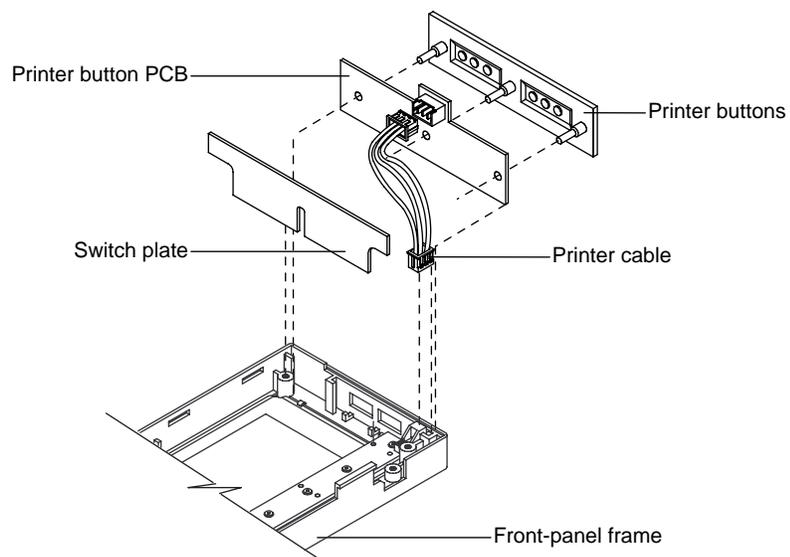
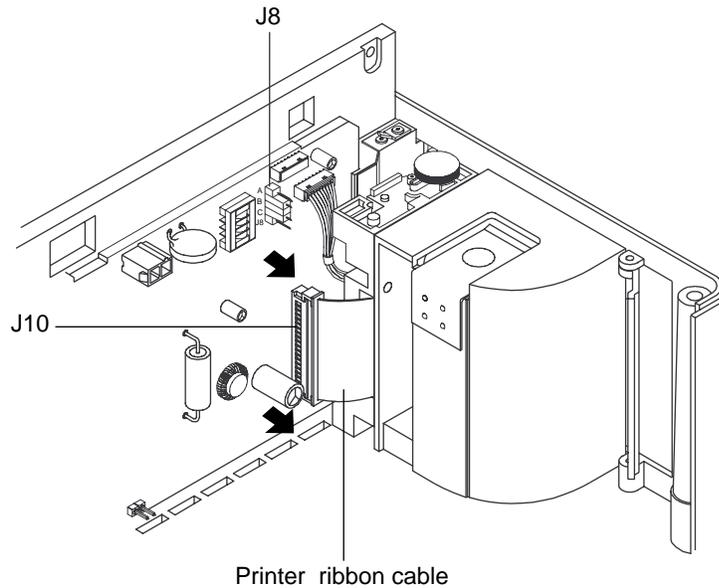
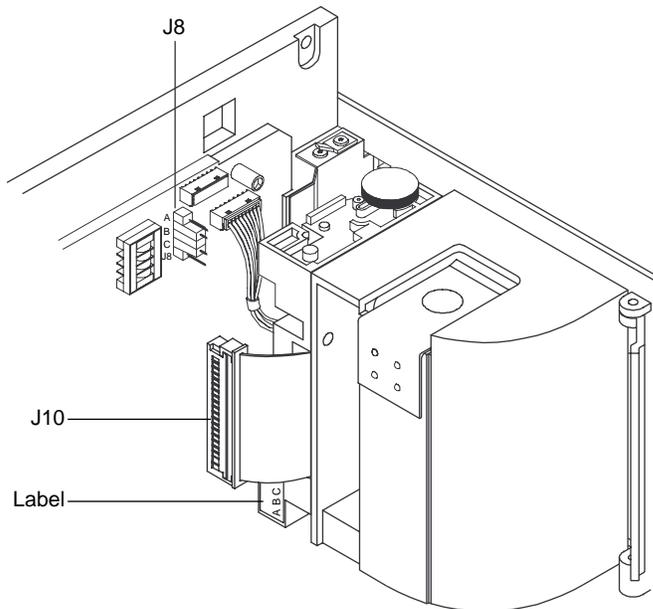

Figure 6-11: Removing Printer Button PCB
Figure 6-17: Removing Printer
Figure 6-19: Printer Jumper Connections
1. Disconnect the printer cable from the main button PCB as illustrated in Figure 6-11.
3. Disconnect the printer ribbon cable from the UIF PCB (illustrated in Figure 6-17). Disconnect the printer cable from the printer button PCB (illustrated in Figure 6-11).
- Turn the N-3200 back over and release the printer ribbon cable from the UIF PCB by grasping both ends of cable connector J10 on the UIF PCB and lifting away from the PCB, as illustrated in Figure 6-17.
- Before installing the replacement printer, the jumper on J8 (Figure 6-17) must be on the proper connectors to match the model of your replacement printer. The printer model (A, B, or C) is designated on the label attached to the printer (Figure 6-19). If necessary, remove the jumper from J8 and reconnect it according to Table 6-1, and as illustrated in Figure 6-19.